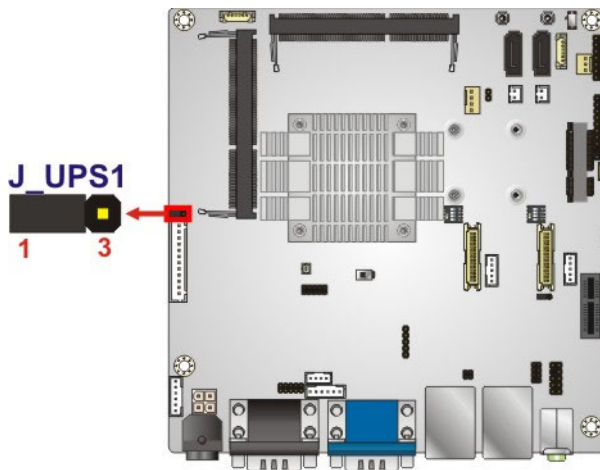

Figure 4-17: UPS/Battery Mode Selection Jumper Location
Jumper Location:	See Figure 4-17
- Jumper Location:** See Figure 4-17